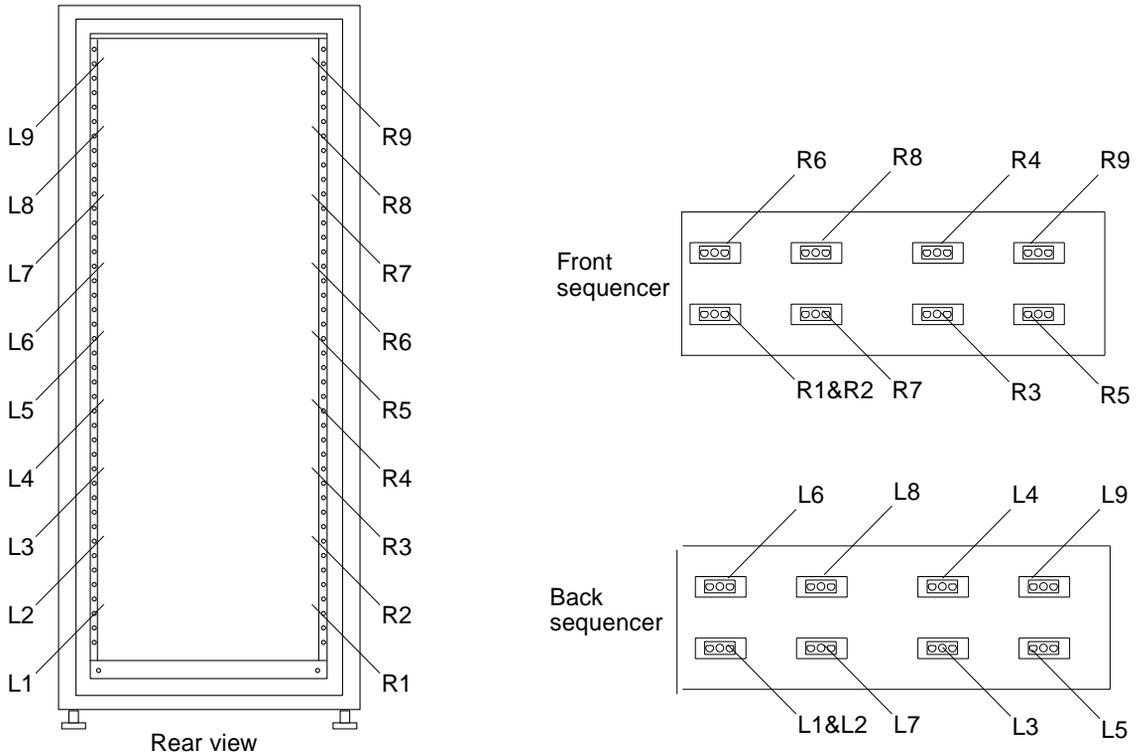

FIGURE 4-5 Power Cable Routing
- 2. Route the power cables from the disk array to the appropriate power sequencer outlet (see FIGURE 4-5).**
- 3. Connect the disk array power cord to the power sequencer (refer to FIGURE 4-5).**